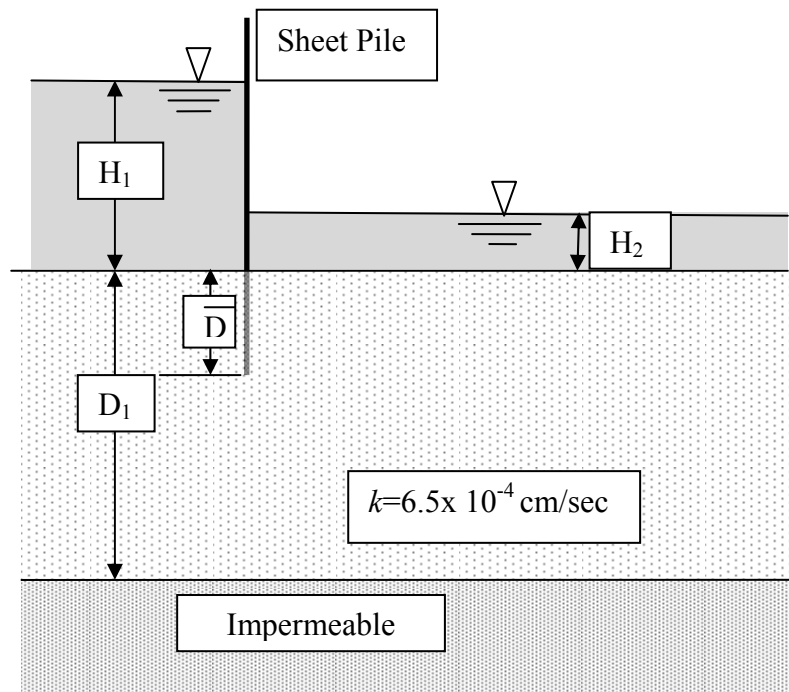

Figure 3
b) For the single row of sheet piles driven in to a permeable layer as shown in Figure 3.